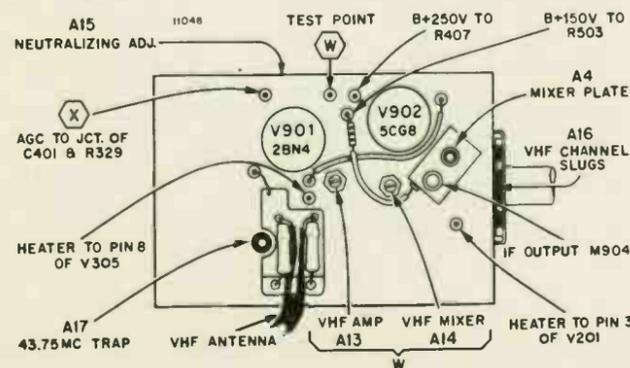

Figure 37. Top View of VHF Tuners 94D151-1 and -2 Showing Adjustment Locations.
- See figure 37 for adjustment locations and identification.